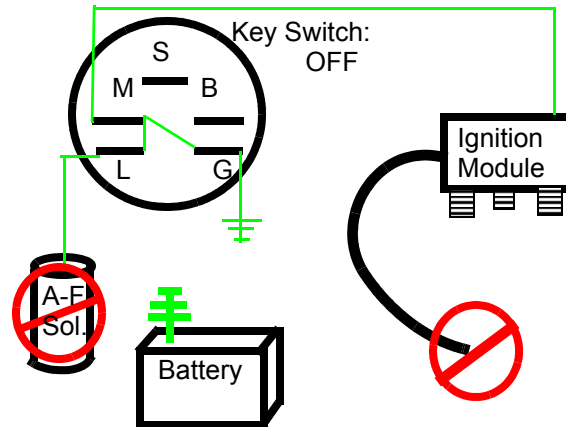

Figure 30.1
- 30.1. With the key in the OFF position, Terminals G, M, and L are connected within the key switch. See Figure 30.1.